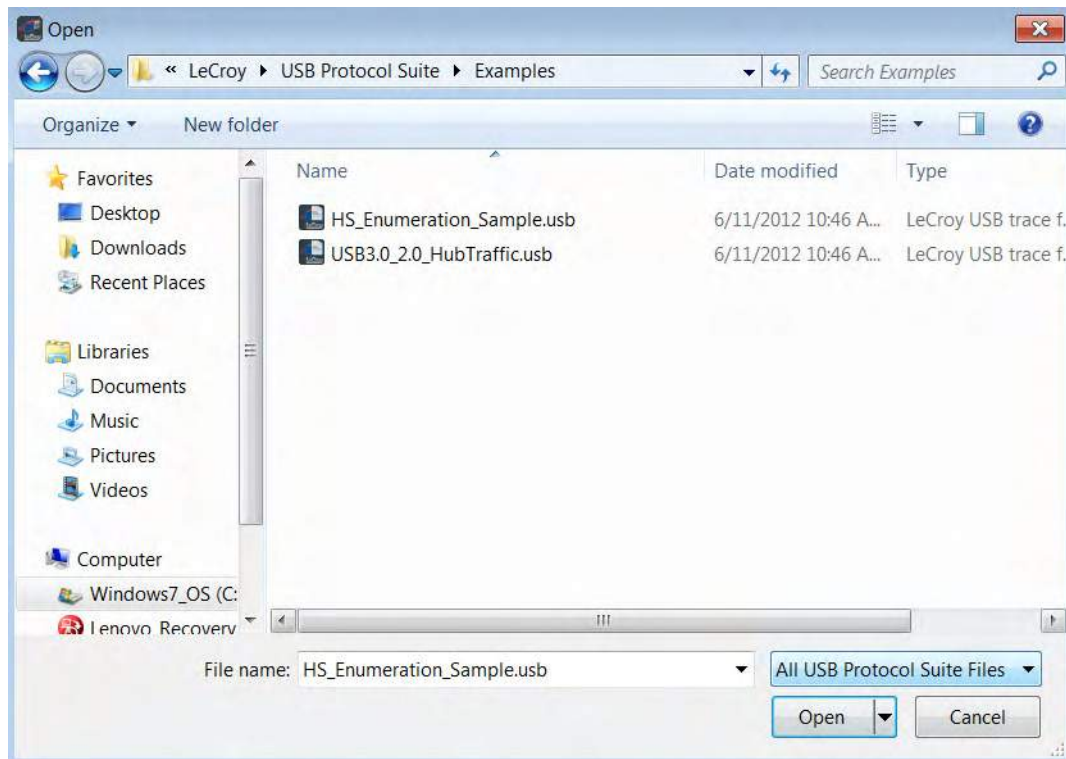

Figure 11.16: Open Dialog
1. Select **File > Open ...** from the menu to display the Open dialog (see Figure 11.16 on page 499):